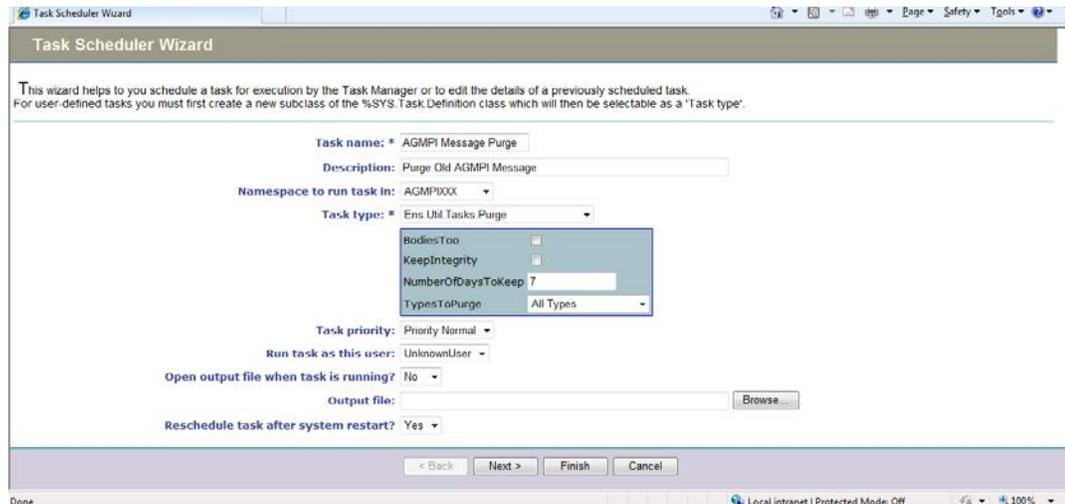

Figure C-4: **Task Scheduler Wizard** page
1. Click the **New Task** option to start the **Task Scheduler Wizard**, as shown in Figure C-4.